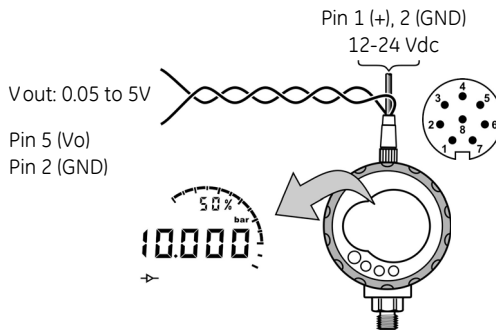

Figure 3: Example configuration: Vout
1. Connect the DPI 104 with the applicable Table 3 accessories: Accessories B/C - refer to cover, Figure B2 (c). Accessory E - refer to Figure 3, below/Table 6, page 8.